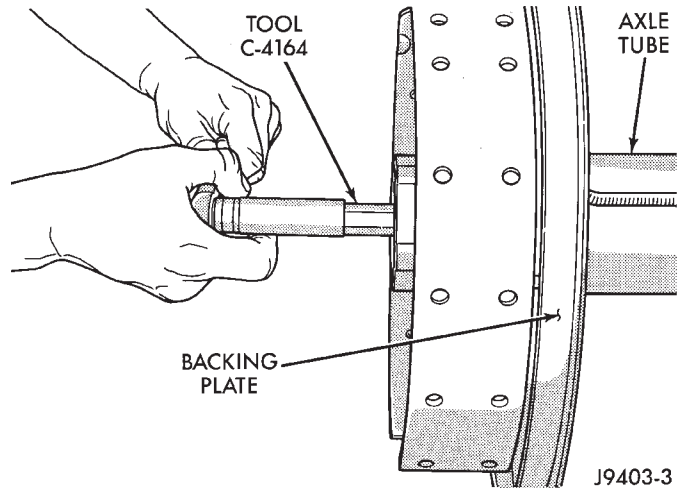

Fig. 20 Threaded Adjuster Tool
(4) Remove bearing threaded adjuster lock from each bearing cap. Loosen the bolts, but do not remove the bearing caps.
(5) Loosen the threaded adjusters with Wrench C-4164 (Fig. 20).